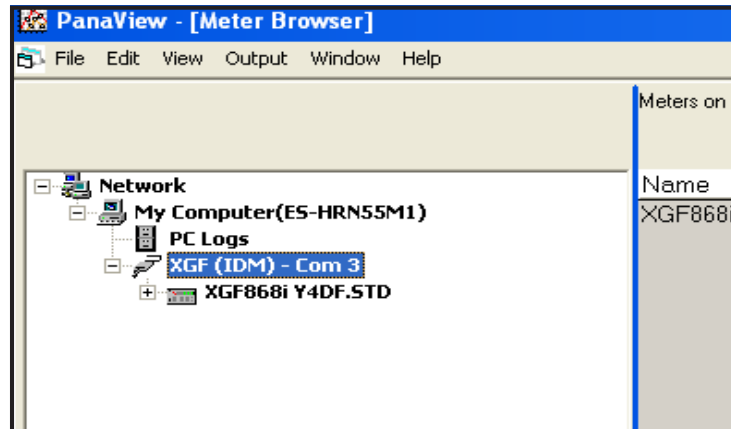
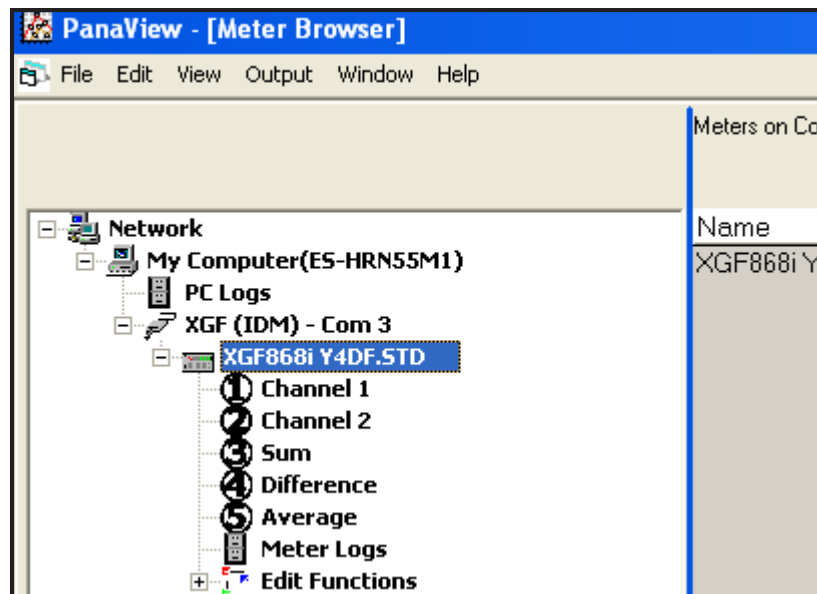

Figure 37: Updated Network Tree
Figure 39: Meter Tree with *Edit Functions* Option
If the initialization is successful, the *Meter Browser* shows a listing similar to Figure 37.
1. From the meter tree in the *New Meter Browser* (see Figure 37 on page 87), click on the XGM entry. The screen now appears similar to Figure 39.